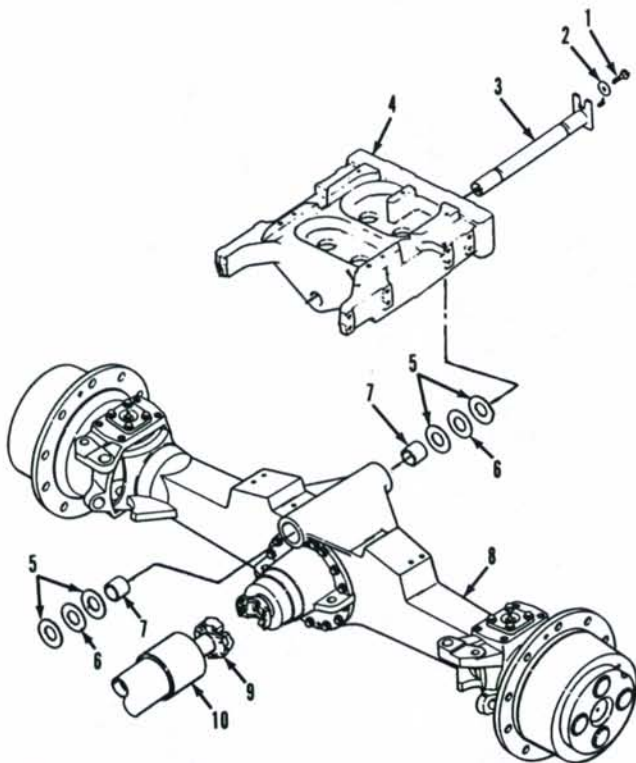

Fig. 4—View of front drive axle and front support removed from tractor.
**6. REMOVE AND REINSTALL.** To remove front drive axle assembly (8—Fig. 4), place shift control
**7. REMOVE AND REINSTALL.** To remove front support (4—Fig. 4), first remove hood, grille and side panels. Disconnect air intake hose. Drain radiator and disconnect front wiring harness connector. Disconnect upper and lower radiator hoses, coolant air bleed hose and coolant recovery hose. Disconnect ether starting line from intake manifold. Remove hoses from clip on radiator, then remove air conditioning condenser and lay back on top of engine. Identify and disconnect oil cooler lines and remove oil cooler. Attach a hoist with lift straps to radiator support. Unbolt radiator support from front support and tilt radiator forward to clear fan as the assembly is removed.